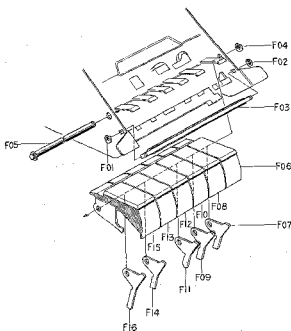

Fig. 3.6
Refer to Fig. 3.6. Remove mechanism ass'y referring to item 3.6. Remove F01 through F05, then control button ass'y.